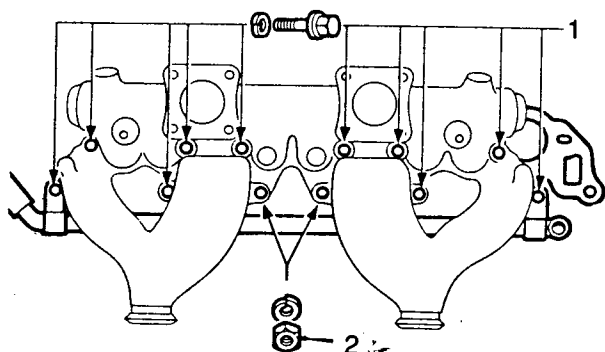

Fig F3.5
(12) Refer to Fig F3.5. Remove the ten set bolts (1) and the two nuts (2) securing the exhaust manifold to the cylinder head.
(13) Remove the manifold and gaskets.
(1) Using a new gasket fit the manifold into position and secure with the ten set bolts and two nuts (Fig F3.5). Torque to 20 N.m.